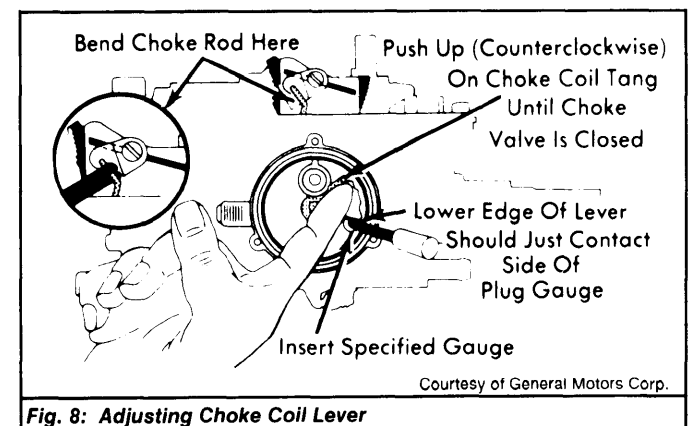

Fig. 8: Adjusting Choke Coil Lever
5) To adjust, bend choke rod. See Fig. 8.